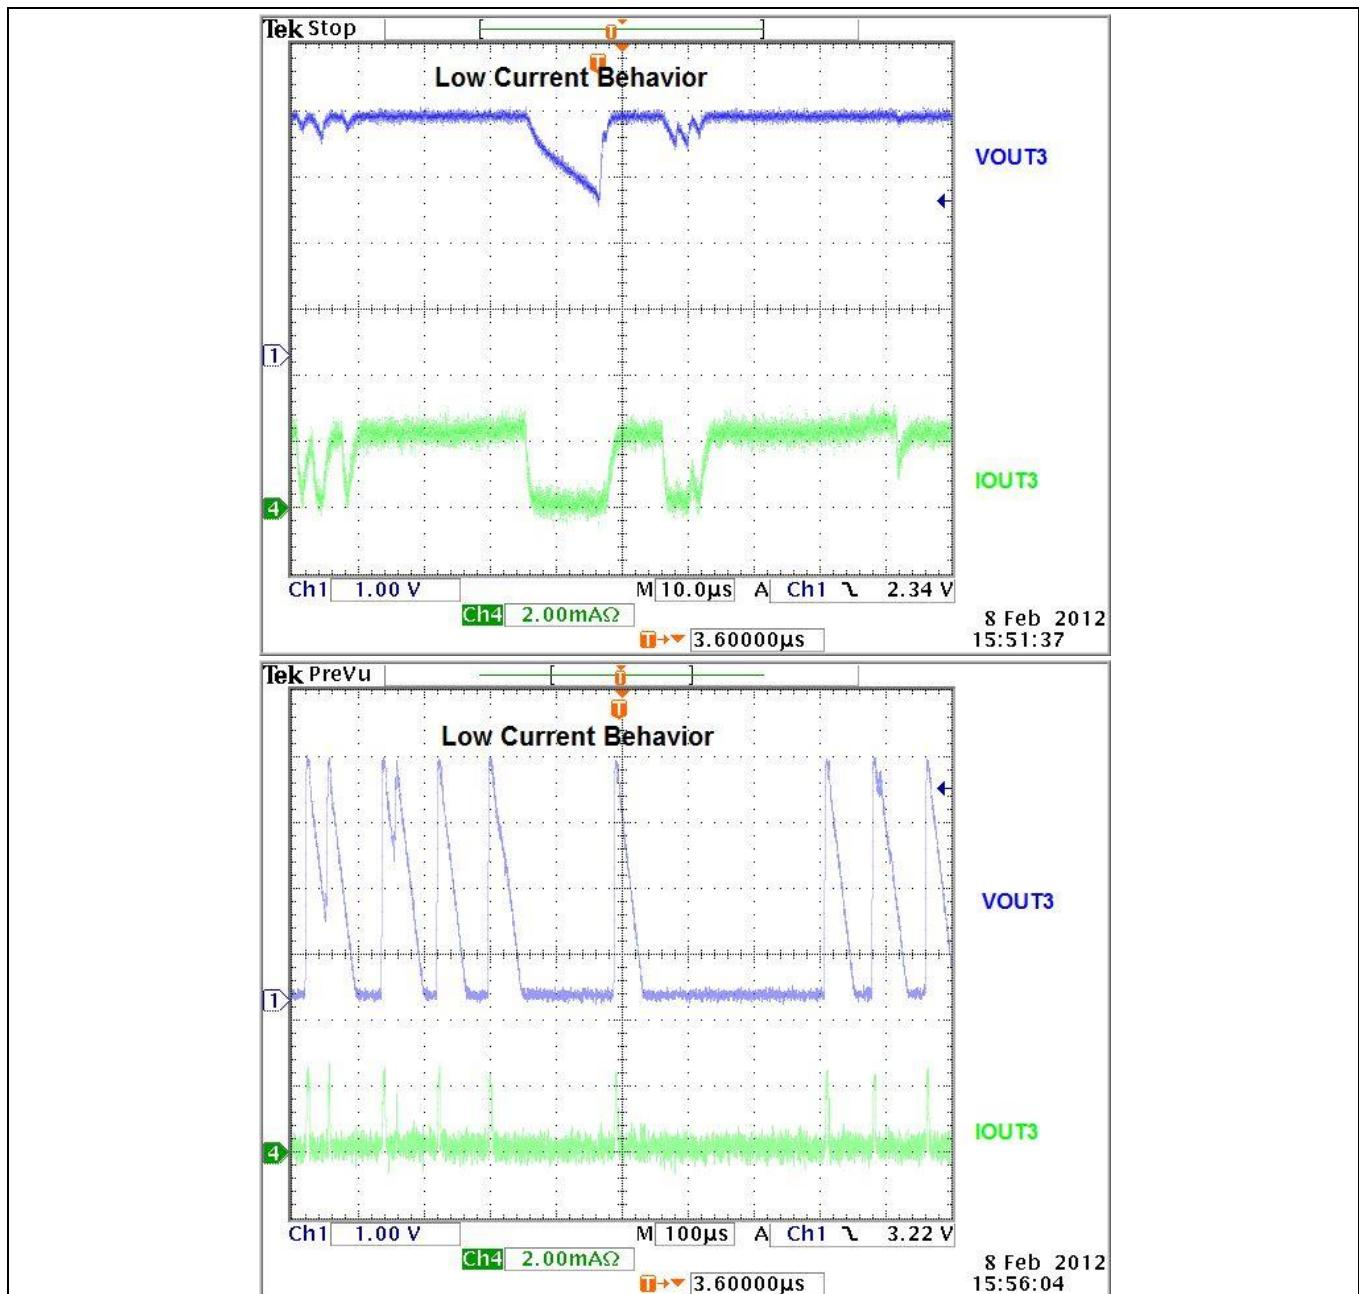

Figure 10 Behavior with very low current setting via  $R_{IN\_SET}$
- o Using high RSET resistor values to set output currents below 10mA should be avoided. Oscillations can occur on the output due to loss of current control. See example scope plots in Figure 10. This particular example occurred at an output current of approximately 2mA.